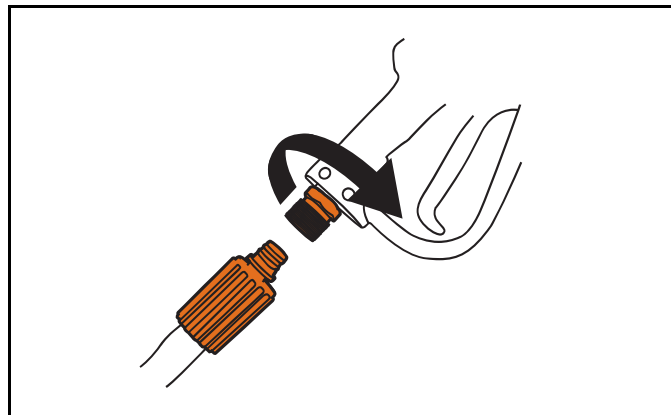

Figure 4-14. Connect Hose to Spray Gun
5. Attach end of high pressure hose to base of spray gun (Figure 4-14). Tighten by hand.